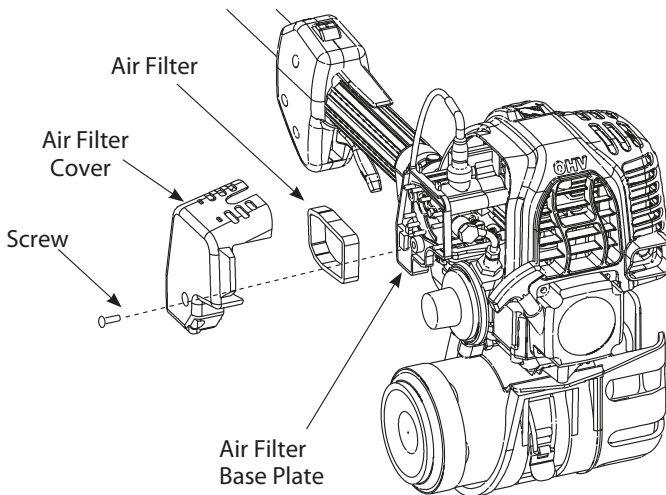

Fig. 21
1. Remove phillips head screw in air filter cover. Then pull the air filter cover out and upwards (Fig. 21).
2. Remove the air filter (Fig. 21).